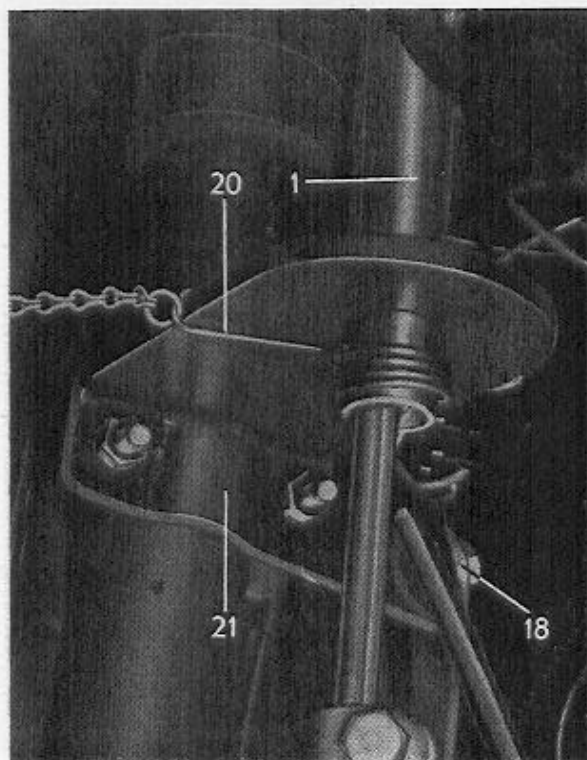

Fig. 5.
8. Screw the shaft (1) into position onto the bearing retainer (9) with the screws (3).
9. Press the fibre washer (19) and the bracket (21) upwards so that they cradle the shaft axially. Then screw the bracket into position on the steering column as shown in Fig. 5.
10. Screw the knobs (5 and 16) onto the levers and the throttle lever (7) and fit the washer on the bearing retainer (9).